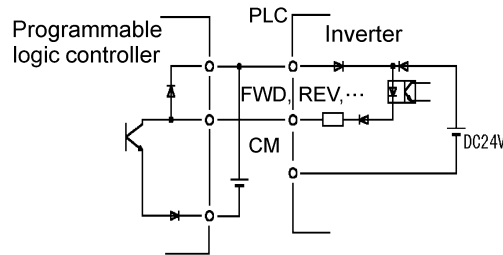

Figure 3-3-11
1) The digital input terminals such as FWD, REV, and X1-X9 are generally turned on/off between the CM terminal. If turned on/off using an external power source and open collector outputs from the programmable logic controller, the terminals may malfunction due to current leak from the external power source. In this case, connect the external power source using the PLC terminal as shown in Figure 3-3-11.
(3) Transistor output terminals (Y1-Y4 and CME)